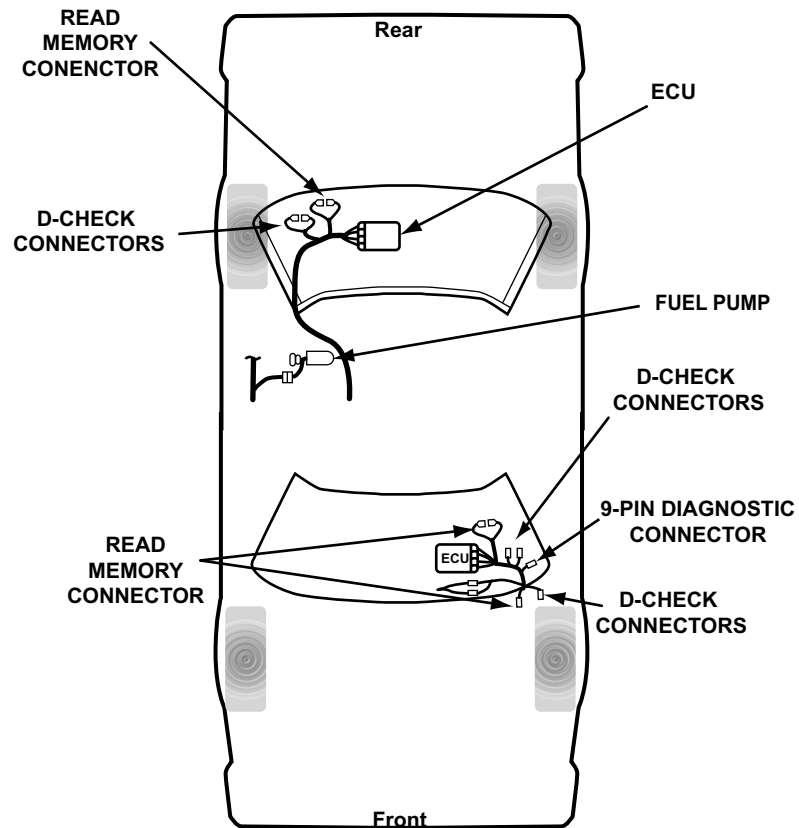

Figure 15-32 Common locations for D-Check and Read Memory connectors
D-Check connectors are used on some 1995 models and most 1994 and earlier models. D-Check connectors can be identified easily as a mating pair and are green in color. Read Memory connectors are used on some 1995 models, most 1986-94 models with fuel injection and some carbureted engines. Read Memory connectors are similar to the D-Check connectors, but are typically black in color. These connector locations vary by model and may be difficult to locate and identify. Figure 15-32 shows some typical locations where the D-Check connectors and Read Memory connectors may be found on various Subaru models. Refer to the appropriate figure for the vehicle being tested to locate and identify the connectors. Included in this section are the following.
- “Common locations for D-Check and Read Memory connectors” on page 192 (Figure 15-32)